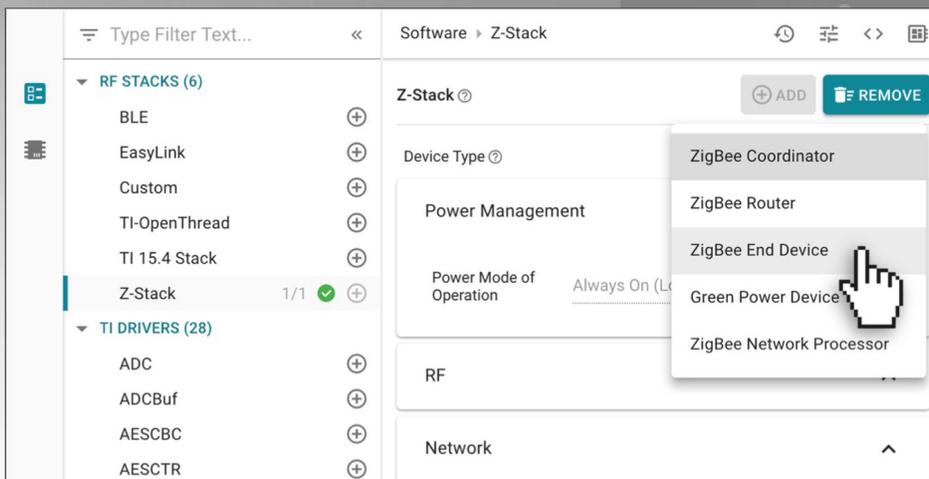

Figure 2. An example stack configuration view
SysConfig’s device view is useful for custom hardware development with a similar level of information. Software views, such as the one shown in Figure 2 for Z-Stack configuration, provide a comprehensive view of configurable parameters. A list of options is displayed for each parameter (Zigbee device type in this example). The default setting is being changed from Zigbee Connector to Zigbee End Device with a simple mouse click. Hover over the “?” icon with a mouse and additional details on these parameters will be displayed while the newly updated software will be shown in the preview pane. With this initial release, SysConfig supports the configuration of pins and drivers for most SimpleLink™ MCUs, including the configuration of radio-frequency (RF) parameters and stacks for wired and wireless communication technologies like Wi-Fi®, Ethernet, *Bluetooth*®, Zigbee®, Thread, 15.4 and EasyLink. It also supports multiprotocol configuration. You can easily update the default settings to quickly find the optimal combination of RF and stack settings for your use case. You can also export the parameters to other TI tools, including TI’s Smart RF™ Studio, for further testing and tuning.